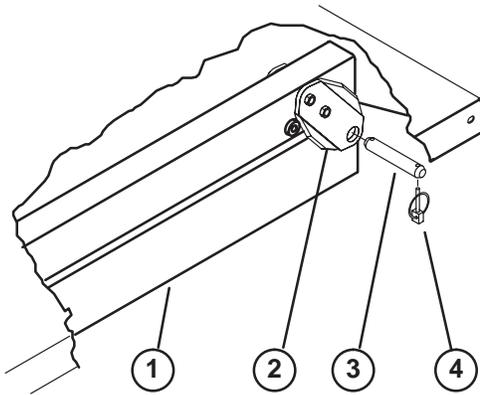

Figure 3
- Remove clevis pin and (2) lynch pins securing each set of pivot plates to frame channels (Fig. 3).